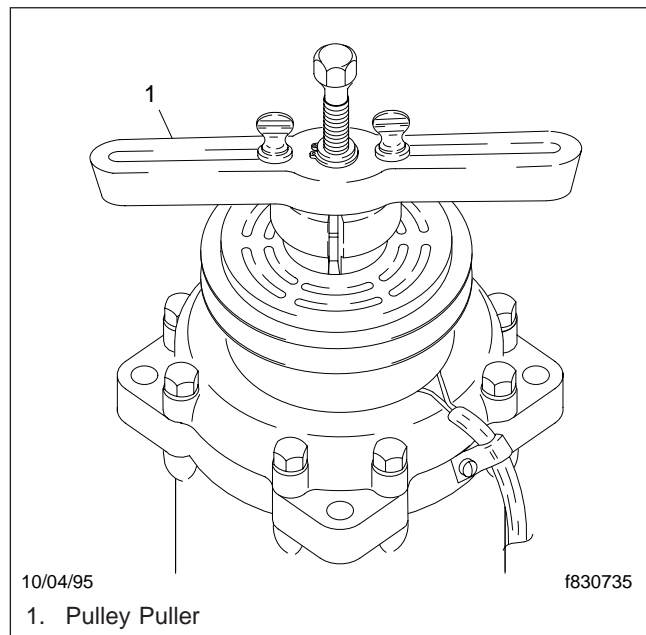

Fig. 5, Position the Pulley Puller Jaws
- 7.1 Insert the lip of the pulley puller jaws into the snap ring groove. See Fig. 5.